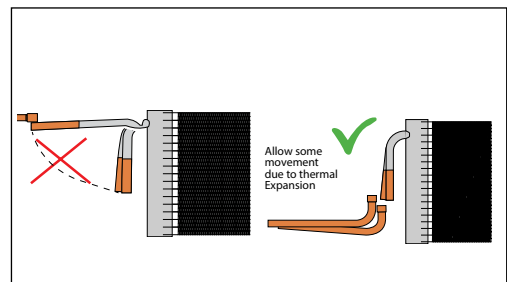

Fig.6 Inlet/Outlet connection attentions
- Inlet/outlet connections must be assembled & supported so that the brazed joints are not exposed to stress/tension. (Fig.6) Mating tubes should be pre-bent to avoid damaging or collapsing the MCH's copper/aluminum inlet/outlet tubes and/or aluminum transition cups. Mating tubes should be configured so that no bending or forcing is required during installation.